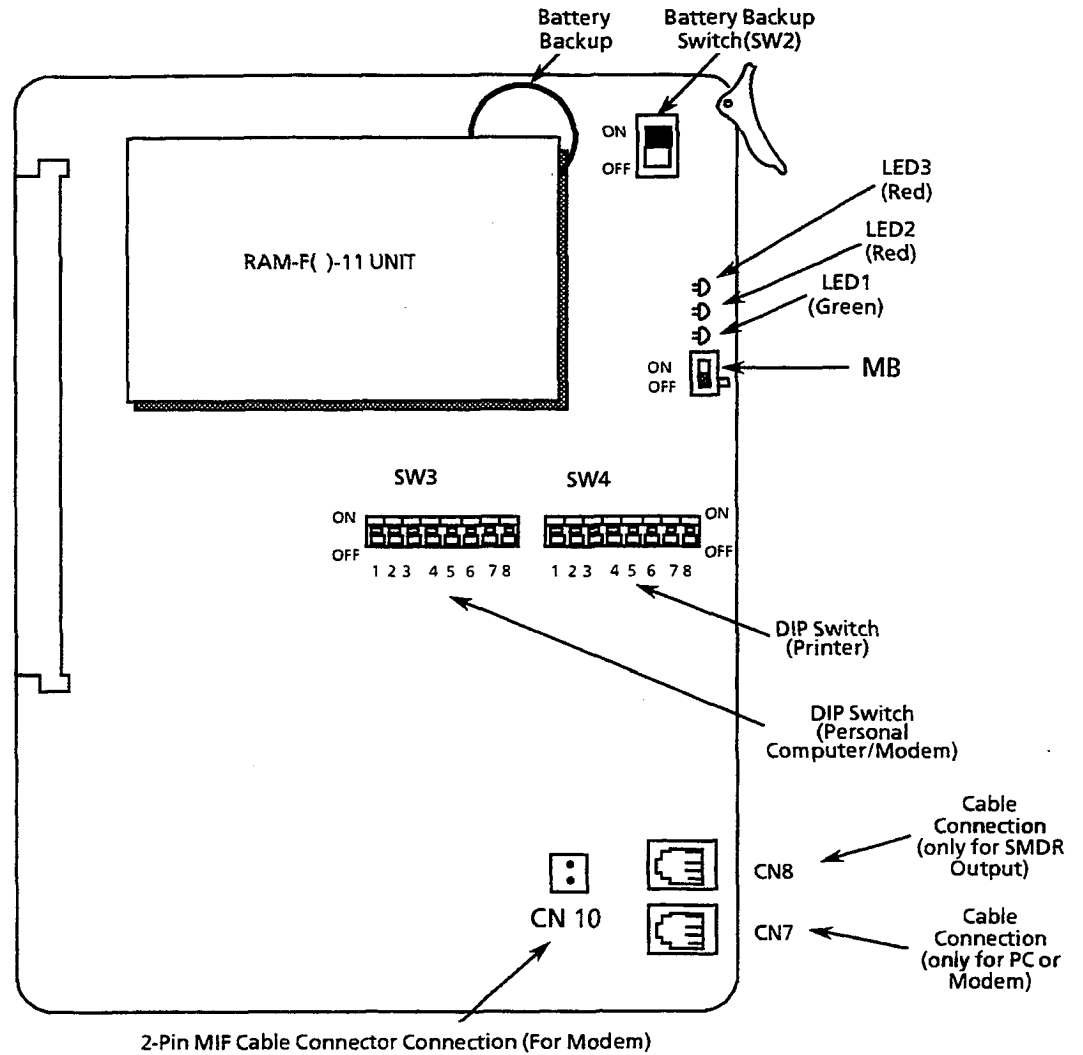

Figure 3-104 MIF-F(L)-10 KTU Switch Layout
When the green LED1 is on, the MIF-F(L)-10 KTU is receiving power. When the red LED2 is flashing, the MIF is exchanging data communications with the system CPU. When the red LED3 is on, the SMDR function is outputting a call record. Refer to Figure 3-104 - MIF-F(L)-10 KTU Switch Layout. Switch MB is the ON/OFF control for this KTU. Also refer to Table 3-29 - MIF-F(L)-10 KTU Switch (SW3) Settings for PC and MNP Modem Connections, Table 3-30 - MIF-F(L)-10 KTU Switch (SW4) Settings for Printers, Table 3-31 - MIF-F(L)-10 KTU - DTE PC or Printer Connections, Table 3-32 - MIF-F(L)-10 KTU - DCE MNP Modem Connections.
3. Connect the MIF Cable Assembly to CN8 on the MIF-F(L)-10 KTU and the KSU. Refer to Figure 3-104 - Connecting the MIF Cable Assembly and the MIF-F(L)-10 KTU to the ESF-SB-10 KSU.